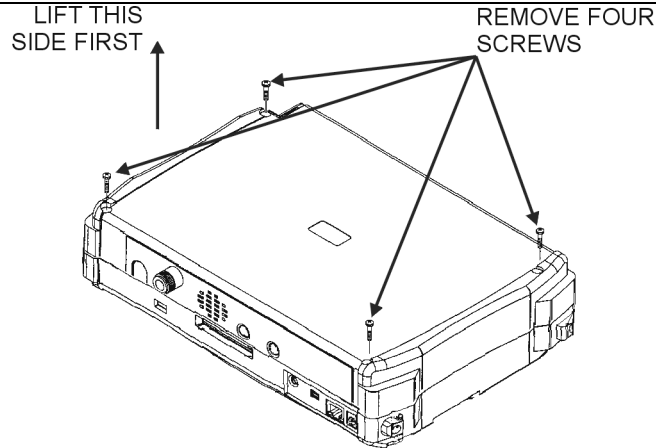

Figure 12. Removing the Cover Screws
3. Use a Phillips screwdriver to remove the four screws securing the two halves of the UMTS Master case together (Figure 12).